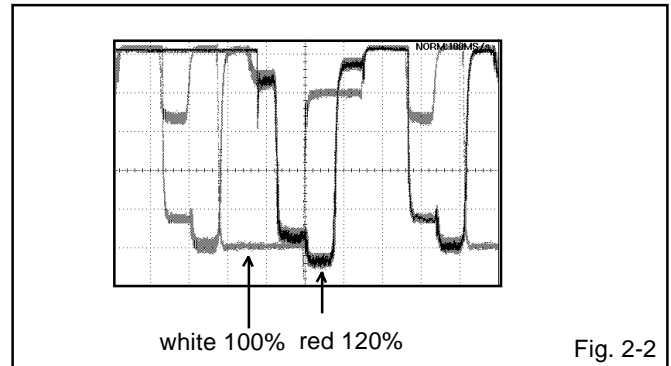

Fig. 2-2
7. Press the VOL. UP/DOWN button on the remote control until the red color level is adjusted to $120 \pm 5\%$ of the white level. **(Refer to Fig. 2-2)**